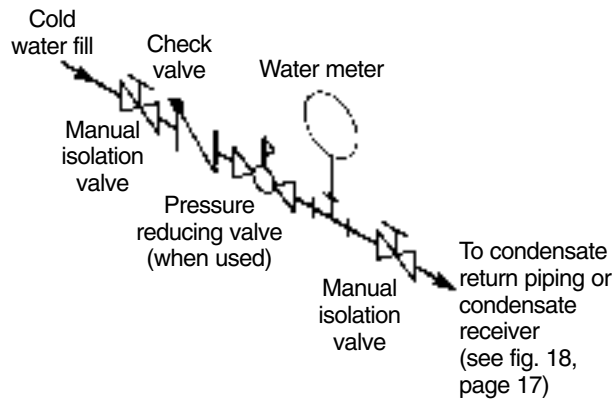

Figure 14 Cold Water Fill Piping
- c. Connect cold water fill piping as shown in Figure 14. Also shown are recommended valves and water meter, if used. Water meter will detect added makeup water, indicating leaks in system.